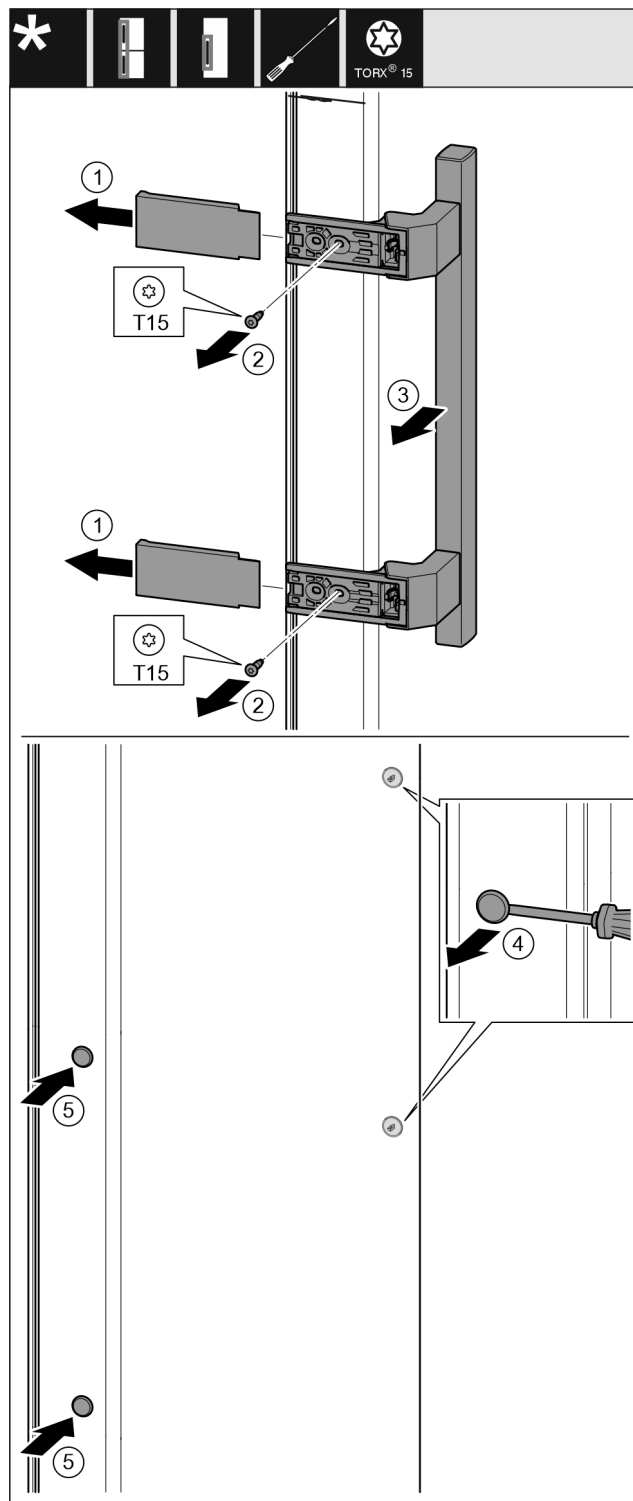

Fig. 19
- Pull off the cover. Fig. 19 (1)
- Unscrew the screws with a Torx 15 screwdriver. Fig. 19 (2)
- Take off the handle. Fig. 19 (3)
- Carefully lift the side plug with a slotted screwdriver and pull it out. Fig. 19 (4)
- Replace the plug on the other side. Fig. 19 (5)